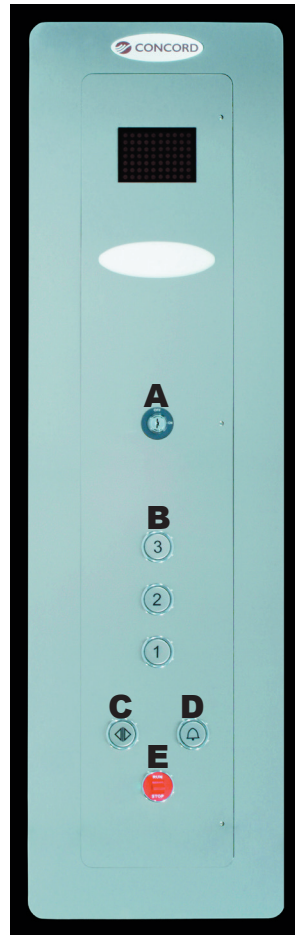

Figure 1 3 Stop COP Panel
1) Cab Key Switch (Figure 1-A)
2) Cab Operating Panel Buttons (Figure 1-B)
3) Door Open Button (Figure 1-C)
4) Emergency Stop Button (Figure 1-E)
5) Alarm Button (Figure 1-D)